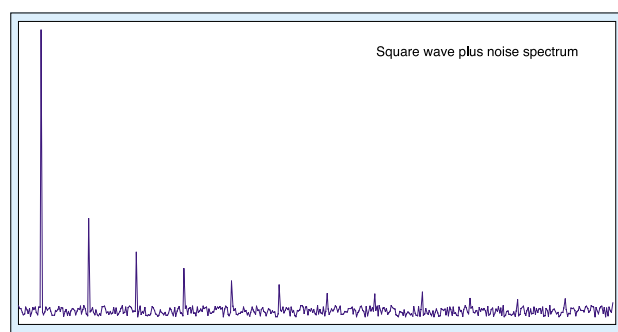

Figure 9: A spectrum resulting from adding low amplitude white noise to a square wave.
► generate a considerable amount of acoustic noise, as you will appreciate if you stand underneath a jet aircraft as it takes off. Likewise, the turbulence in a musical instrument will add a strong noise component to its sound. Not surprisingly, given our observations of the real instrument, the excitation method — blowing against an edge — is a superb mechanism for generating turbulence within and outside the pipe, so we must expect the resulting spectrum to comprise a square wave plus noise, as shown in Figure 9 on the previous page.